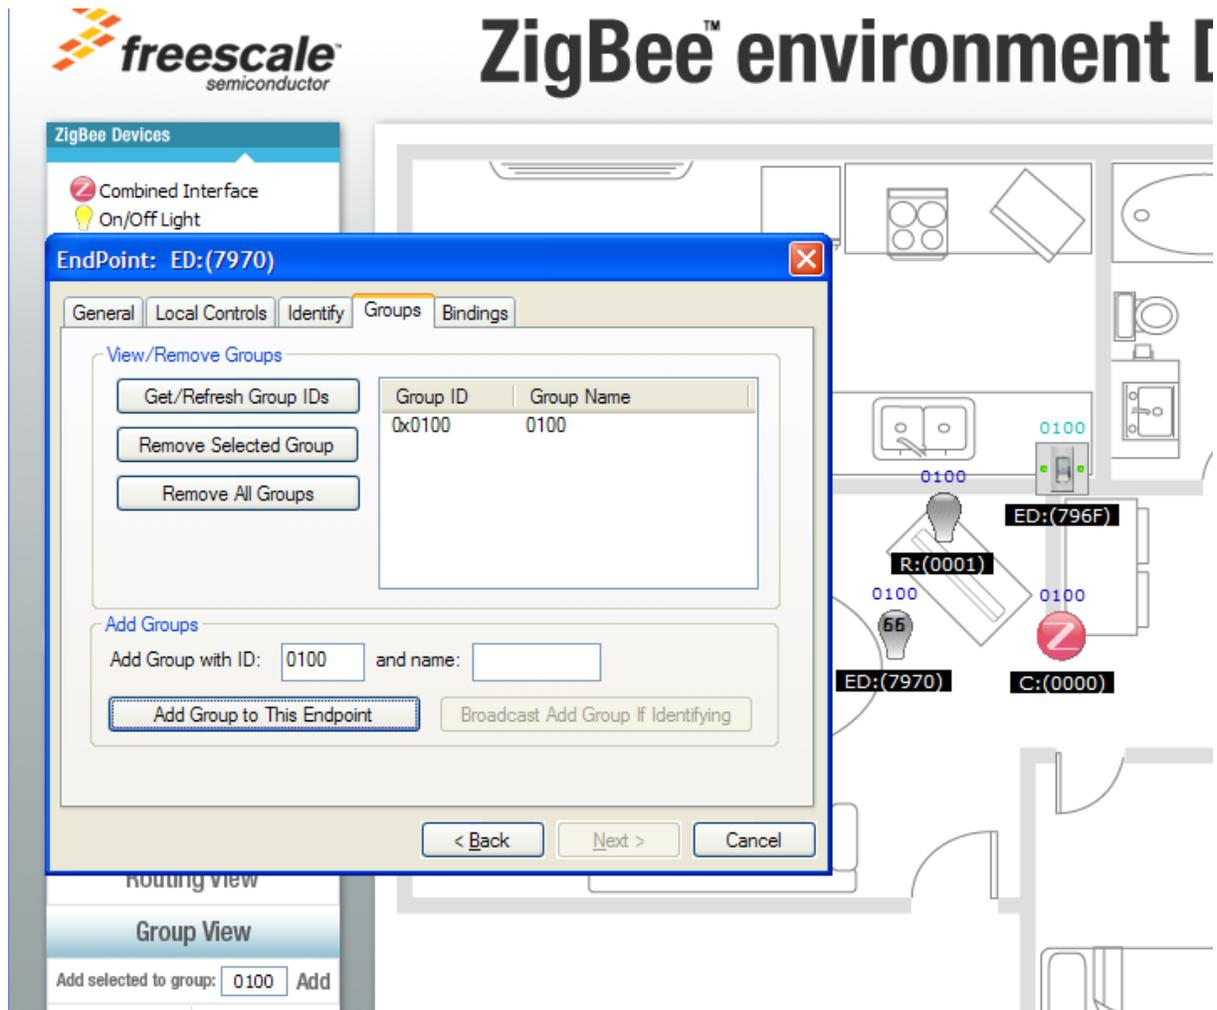

Figure 4-24. Dimmable Light Added to Group
11. Notice how the Dimmable Light has also been added to the 0100 group that the other three devices belong to and that the group list in the Group Tab has also been updated as shown in Figure 4-24.